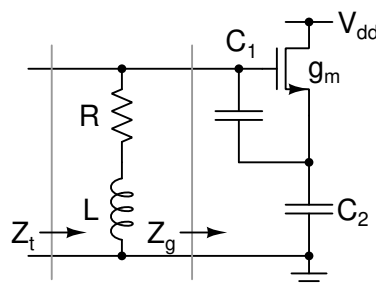

Figure 1.3: Problem 1.3.
- 1.3. Determine $Z_g(j\omega)$ in the circuit in Fig. 1.3. Determine ω_o , L and R such that $Z_t(j\omega_o) = \infty$.